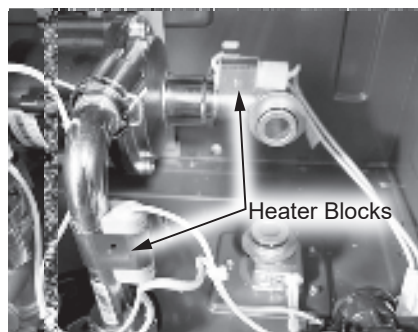

Figure 181 - Heater block locations
21 Locate the two heater blocks attached to the pump inlet elbow and the pump outlet tube as shown in Figure 181. Remove brackets (size 16) securing heater blocks to pipe connections. Place brackets aside in a safe place for reinstallation. Route heater blocks and wiring inside water heater cabinet for ease of access to water pump.
33 Locate the two (2) heater blocks and brackets (size 16) previously removed in **Step 21**. Secure heater blocks to pump inlet elbow and pump outlet tube as shown in Figure 181.